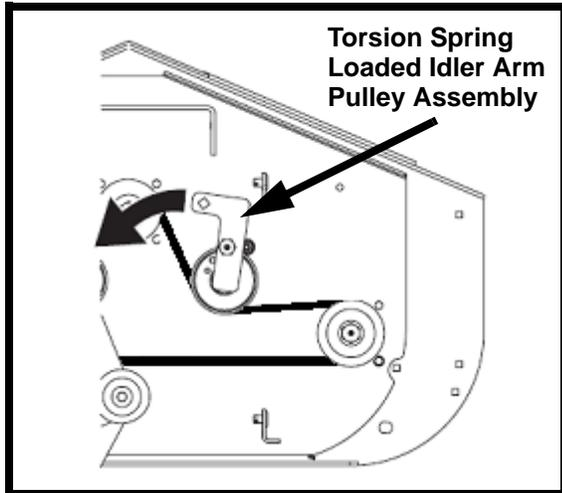

FIGURE 3
10. Release tension on the deck spindle belt by rotating the torsion spring loaded idler arm pulley assembly away from the deck belt and remove the belt. See Figure 3.